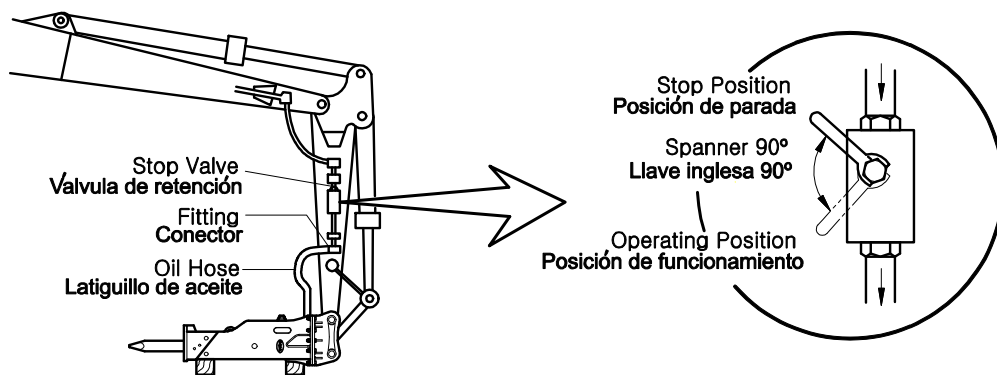

Fig. 9-5
- 2) Turn the stop valve installed to the end of the arm 90° to prevent hydraulic oil from flowing out. See Fig. 9-5